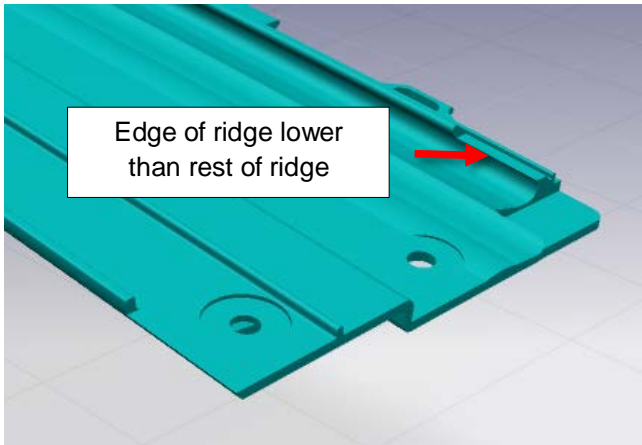

Figure 15 (RH side shown)
- The edges of the ridge appear to have been ground down or are noticeably lower than the rest of the ridge (Figure 15).